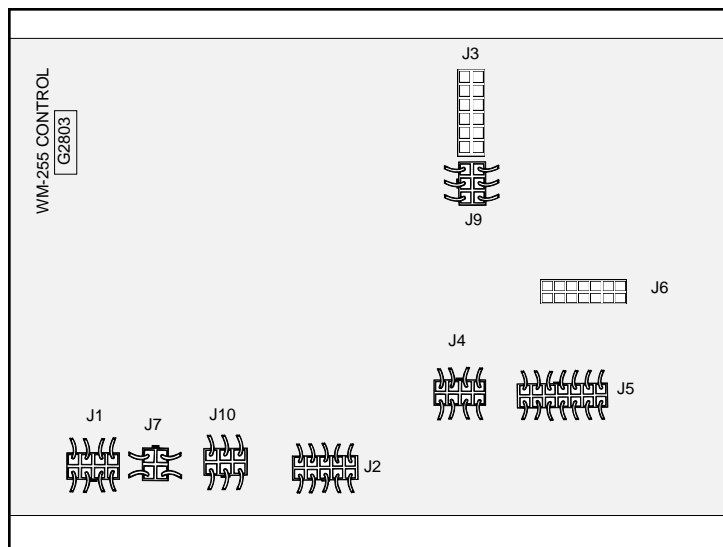

FIGURE F.2 - Remove Plugs J3 and J6 to Perform Static SCR Rectifier Assembly Test.
2. Disconnect Plugs J3 and J6 from the G2803 Control Board. This electrically isolates the SCR bridge assembly. See Figure F.2.